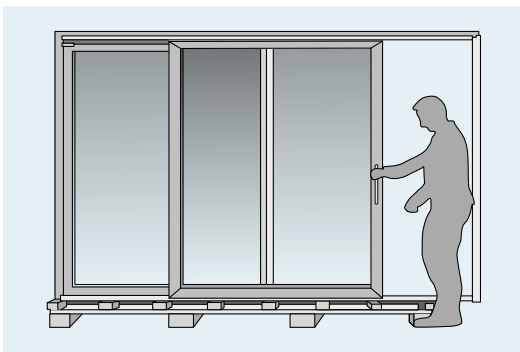

Figure 3
4. Stop the movement approximately halfway (figure 3).